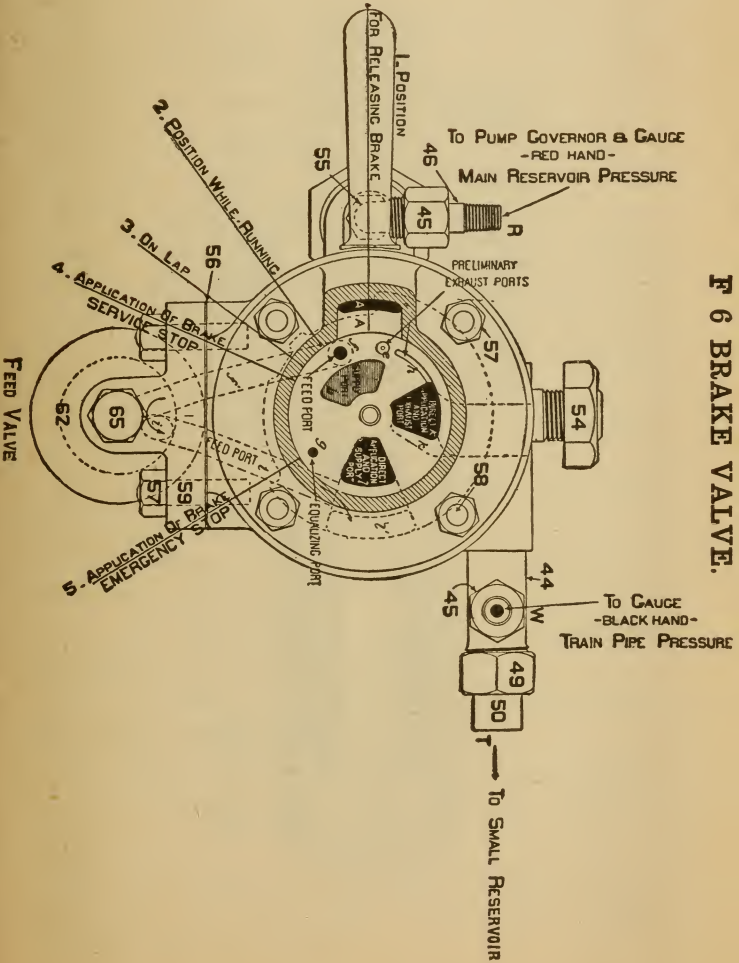
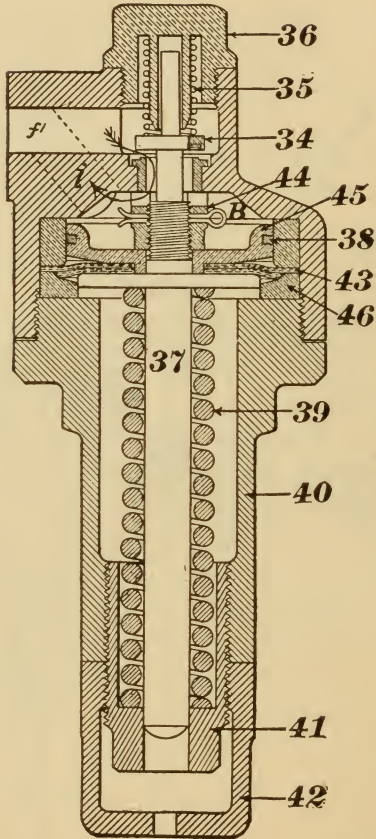

Fig. 19.
Fig. 20.
A. When attached to the brake valve, passage  $f^1$  (Fig. 20) registers with passage  $f$  of the brake valve (Fig. 19) and passage  $i$  registers with passage  $i$  of the brake valve, which passage is connected with the train pipe.
A. The spring 39 (Fig. 20) supports piston 45 which in turn holds supply valve 34 from its